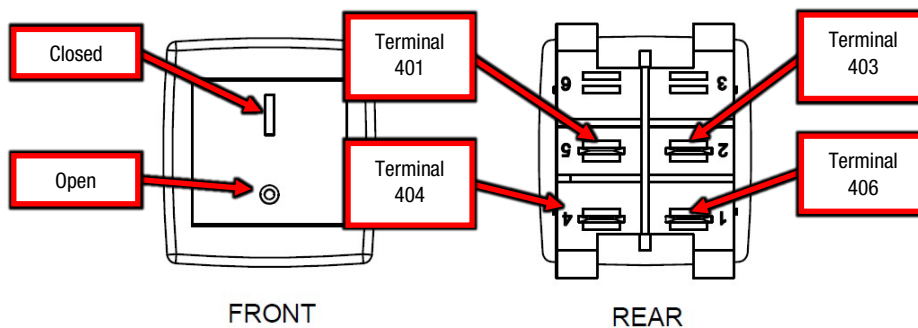

Figure F.3
A.3. Perform the static measurements in Test Table 1, refer to Figure F.3 for test point locations..